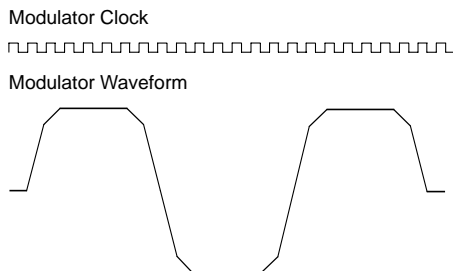
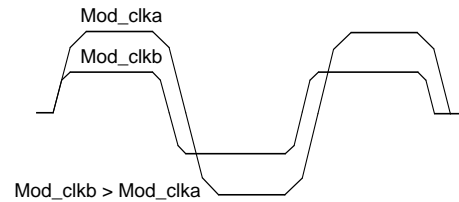

Figure 19. Modulator Waveform and Clock
Figure 20. Two Different Modulator Clock Setting
The modulator waveform is created by charging and discharging a capacitor. A modulator clock controls the timing, as shown in Figure 19. For every rise-and fall edge, 4 clock periods are being used. The charging current during these 4 clock periods are not equal, this is to reduce the high frequency components in the waveform, which in turn will narrow the frequency spectrum.
where  $f_{\text{MOD\_CLK}}$  is the modulator clock shown in Figure 19,  $f_{\text{XCO}}$  is the crystal oscillator frequency Refclk\_K is a 6 bit number and Mod\_clkS is a 3 bit number. Mod\_clkS can be set to a value between 0 and 7. The modulator clock frequency should be set according to the bit rate and shaping.
A  $f_{\text{MOD\_CLK}}$  of 8 times the bit rate (as in Figure 20) corresponds to a signal filtered in a Gaussian filter with a Bandwidth Period product (BT) of 1. When BT is increased, the waveform will be less filtered. Minimum BT is 1 ( $f_{\text{MOD\_CLK}}$  is 8 times the bitrate). Figure 20 shows two waveforms with BT=1 and BT=2, i.e. the  $f_{\text{MOD\_CLK}}$  is 8 and 16 times higher than the bit rate. When changing the BT factor, the charge-and discharge times will also be changed, and therefore the frequency deviation, as shown in Figure 19.